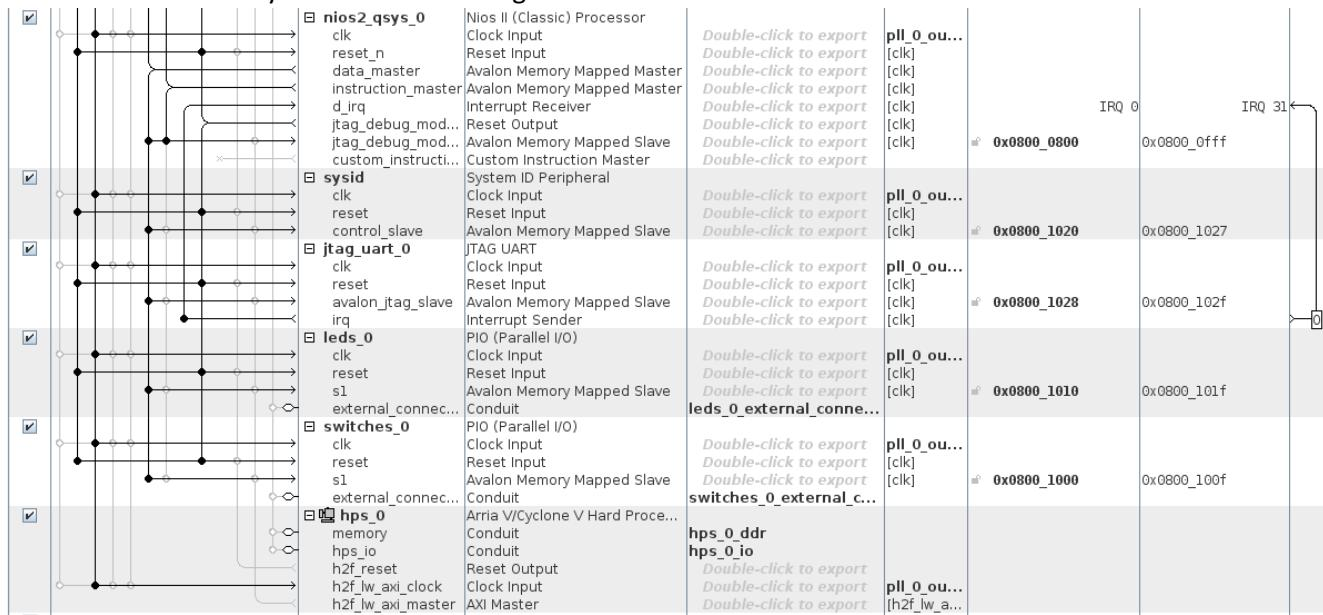

Figure 8-10. Adding the "Standalone" HPS to the System
21. Connect the system as shown in Figure 8-10 below: